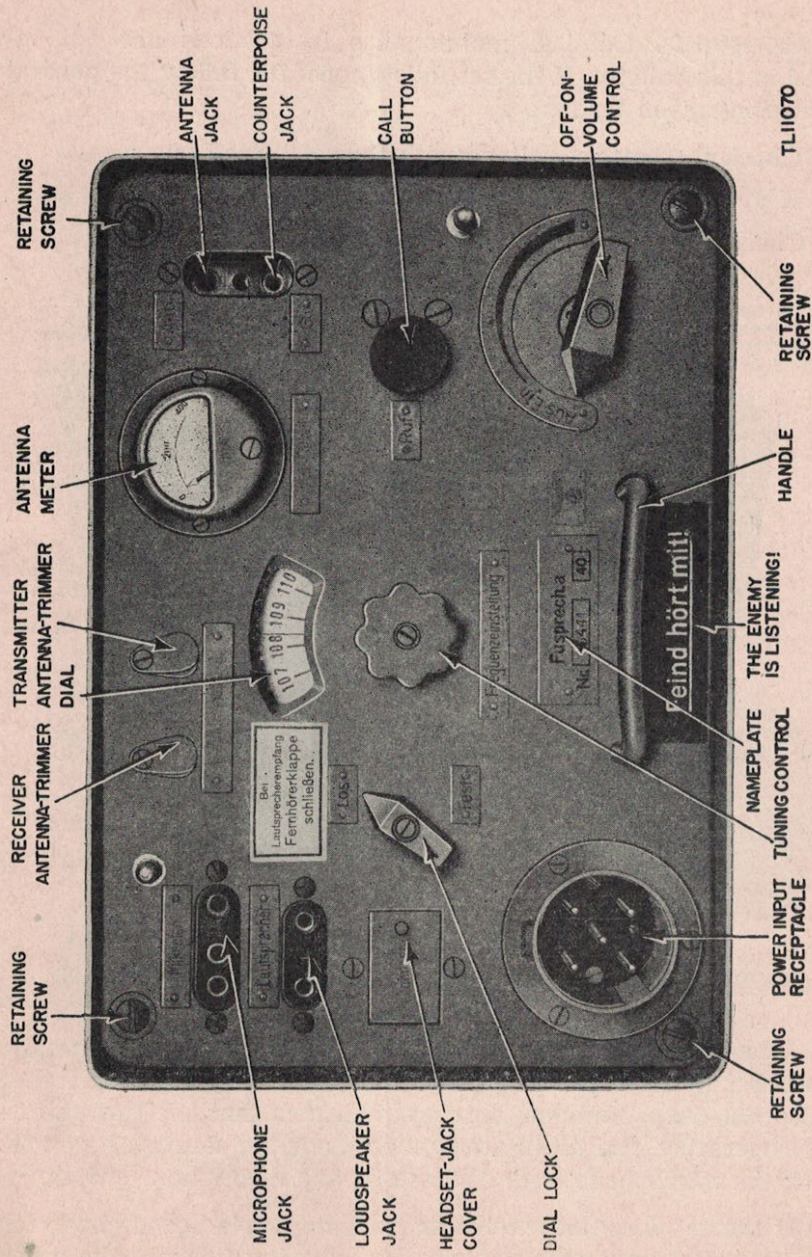
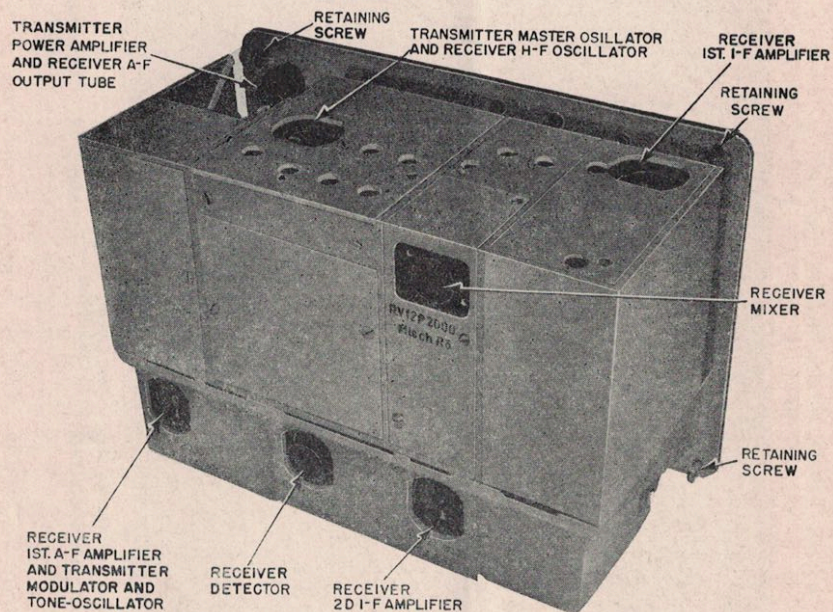

Figure 5. German radio set Fusprecha, front view.
Figure 6. Chassis of German radio set *Fusprech.a*, top and rear view.
b. Turn the dial lock, marked **Los** (unlocked) and **Fest** (locked), to the **Los** (unlocked) position as shown in figure 5. Select the desired frequency by means of the control marked **Frequenzeinstellung** (tuning control). Lock the tuning control by turning the dial lock to **Fest** (locked).
f. To change the tubes remove the set from the case. Loosen the four retaining screws on the front panel of the set (fig. 5). Each retaining screw is encircled with a red ring. Then pull the set from the case. Figure 6 is a top rear view of the set with the case removed, and shows the position and function of all the tubes.